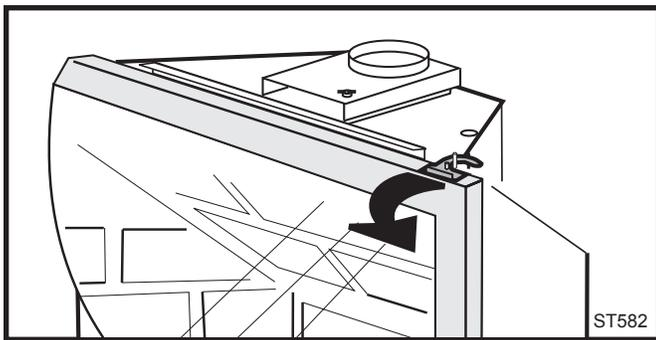

Fig. 37 Release the latches to release the glass frame.
2. Swing open the swiveling latches at the top left and right corners of the glass frame. (Page 20, Fig. 37)
Replace glass only with CFM Corporation approved parts. Refer to Page 22 for Replacement Parts. Refer to Figure 37 and previous instructions for removal of the damaged glass frame.